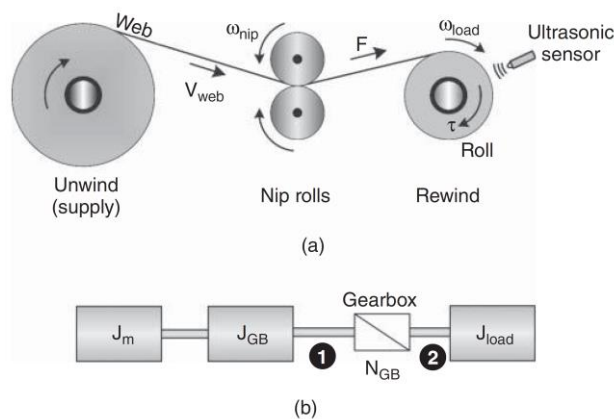

Figure 5: Motor and gearbox selection for a converting machine. (a) Sheet aluminum converting machine. (b) Rewind axis schematic
- 7) A small converting machine shown in Figure 5 is used to process sheet aluminum. The load inertia on the rewind axis is  $J_{\text{load}} = 2 \times 10^{-2}$  kg-m2 and the axis has 7Nm load torque due to friction and tension. The motion uses trapezoidal velocity profile with  $\omega_{\text{load}} = 150$  rpm. Change in the size of the rewind roll can be ignored. Select a NEMA 23 size servomotor and a gearbox to drive the rewind axis if the cycle consists of (a)  $t_a = t_d = 30$  ms,  $t_c = 3$  s,  $t_{\text{dw}} = 4$  s, or (b)  $t_a = t_d = 30$  ms,  $t_c = 5$  s,  $t_{\text{dw}} = 1$  s.